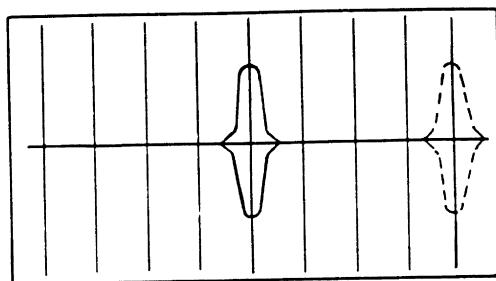

Fig. D11 - Sweep width adjustment
Fine adjust the AFM2 frequency until the IF signal is placed in the center of the oscilloscope as shown in Fig. D11. If, e.g. a sweep of 100 kHz/cm is required, proceed as follows:
1. Step the center frequency of the RE108 4 x 100 kHz = 400 kHz up in frequency. The IF signal will now move to the right as shown by the dotted curve in Fig. D11.